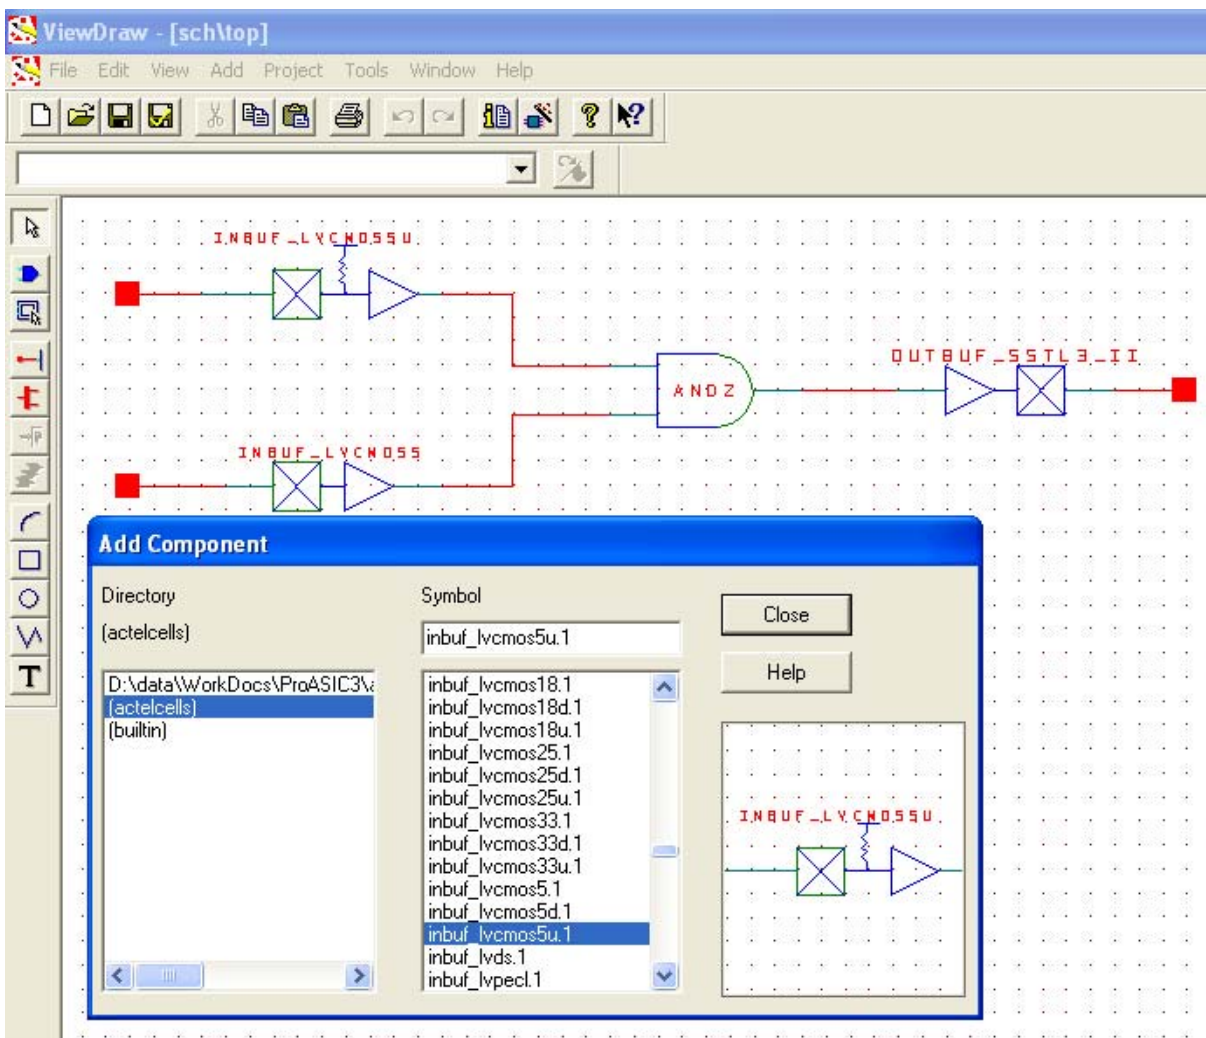

Figure 8-6 • I/O Buffer Schematic Cell Usage
- Enter a name for the macro. Click **OK**. The core will be generated and saved to the appropriate location within the project files (Figure 8-6 on page 8-7).
Libero IDE includes the ViewDraw schematic entry tool. Using ViewDraw, the user can insert any supported I/O buffer cell in the top-level schematic. Figure 8-6 shows a top-level schematic with different I/O buffer cells. When synthesized, the netlist will contain the same I/O macro.